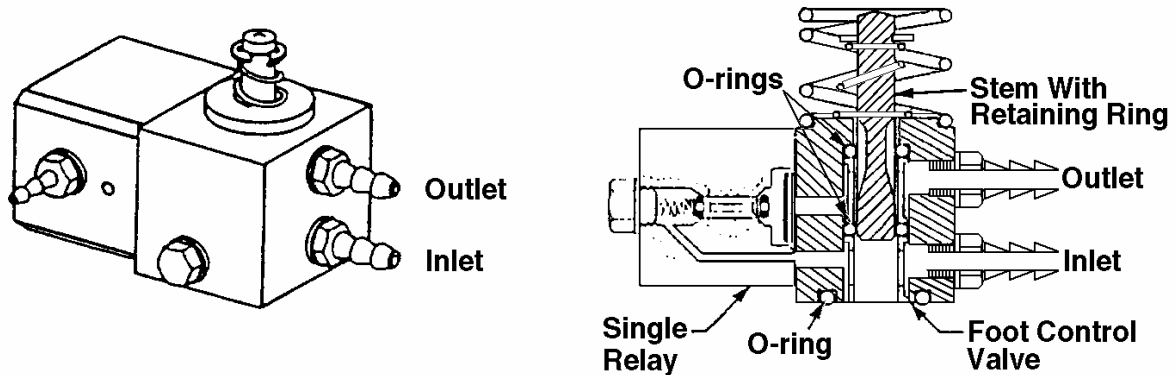

Figure 4-4. Foot control.
(3) The front cover of the control block has three cavities in the inner surface. These cavities in the cover correspond in location to the three groups of passages drilled in the front of the block. When the block is assembled, with the diaphragm in place between the block and the cover, the cavities allow the diaphragm to deflect away from the surface of the block, so air can flow between the grouped passages.
(4) However, the flow between the grouped passages can occur only if the diaphragm is allowed to deflect into the cavities in the cover. Air pressure from the handpiece hanger valve or the handpiece selector valve, applied into the cavities, presses and holds the diaphragm against the block. This prevents any flow between the passages, so the handpiece cannot operate.
(5) In automatic control systems, placing a handpiece in its hanger actuates the hanger valve to supply the "holdback signal" that pressurizes the cavities in the cover and shuts off the control block. Lifting the handpiece out of its hanger releases the holdback signal allowing air to pass through the control block. In manual control systems, the manually-operated selector valve accomplishes this task.
(6) Water coolant for the handpiece is controlled by an integral water valve in the control block. The water is supplied through a passage from the master block. This passage intersects with the water coolant flow control needle valve bore. After passing the needle valve seat, the water flows to the inlet seal at the bottom of the water valve stem. Unless the water valve is actuated, the flow of water is blocked at this point.
(7) Actuation of the water valve occurs when air pressure is applied above the water valve diaphragm in the water valve cap. The signal air reaches the water valve cap after passing the holdback diaphragm at the front of the control block. When the signal air reaches the water valve cap, it deflects the diaphragm downward. This, in turn, pushes the stem downward and unseats the inlet seat, allowing water to flow through the valve to the outlet barb.
(8) Releasing the signal air pressure allows the spring to push the stem and diaphragm back up to close the valve.
c. **Foot Control.** The foot control is actuated by foot pressure on the cover, which depresses the stem assembly in the valve bore. This moves the fluted surfaces of the stem below the inlet O-ring seal, allowing air to flow to the outlet. When foot pressure is released, the stem returns, sealing the inlet at the O-ring. Any pressure from the outlet side of the valve is then exhausted as the fluted surfaces move above the outlet O-ring seal. Refer to figure 4-4.